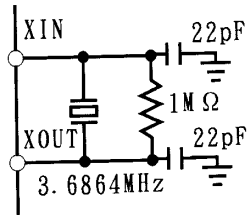

Fig. 3
- Crystal resonator, resistor and capacitors should be connected as shown Fig.3 for on-chip oscillator operation.